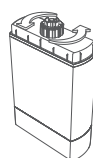

Figure 21
- 5.1 Unscrew the side tank cap in an anti-clockwise direction (see Figure 21).